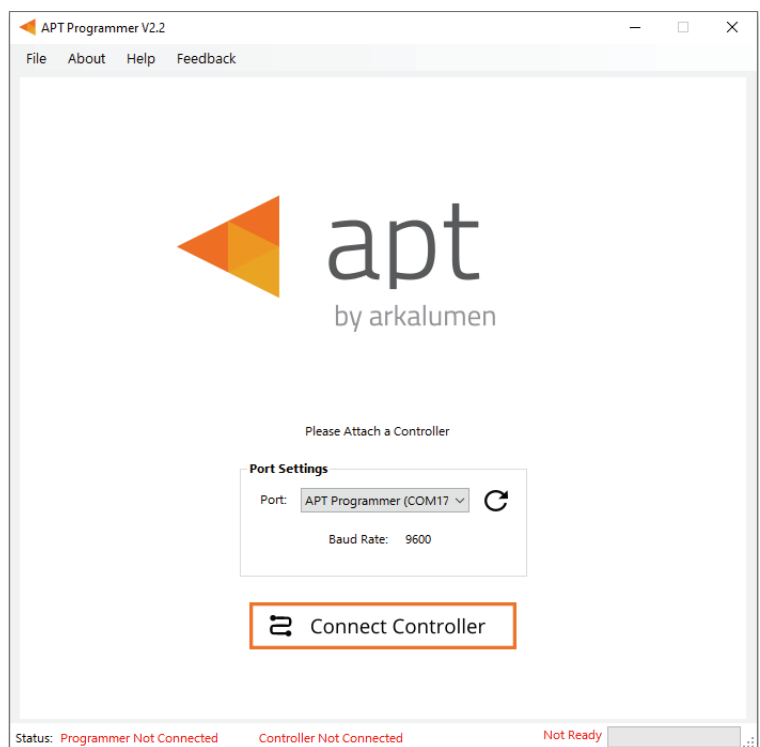

Figure 2: Programmer Connect window
- 1 Launch the APT Programmer Interface software by selecting the application, **APT Programmer Interface**, from the Start Menu. The Programmer Connect window (shown in Figure 2) will open.